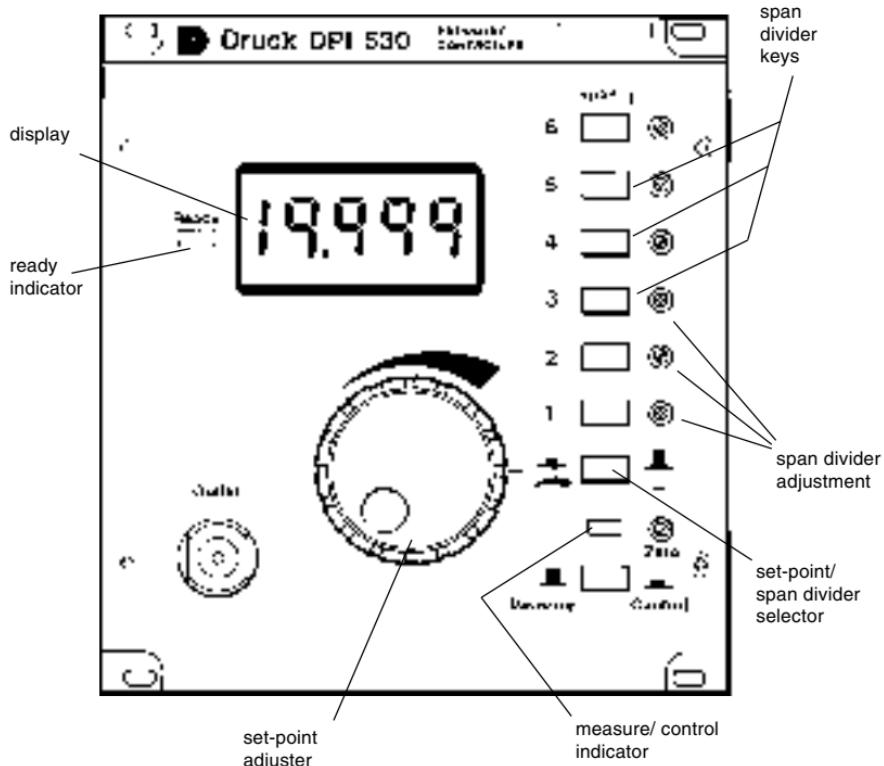

Figure 3-2 Front Panel
3.2 Controlling a Pressure (Figure 3-2)